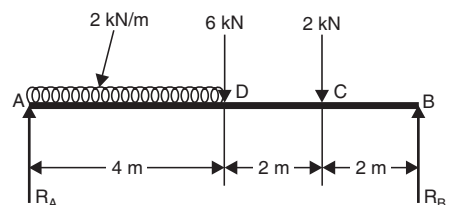

Fig. 3.49
**Example 3.19.** A beam simply supported at both the ends carries load system as shown in Fig. 3.49. Find the reactions at the two ends.
**Sol.** Refer to Fig. 3.49. Since, all the loads acting on the beam are vertically downwards therefore, the reactions at the ends shall be vertically upwards. Let  $R_A$  and  $R_B$  be the reactions at the ends A and B respectively.